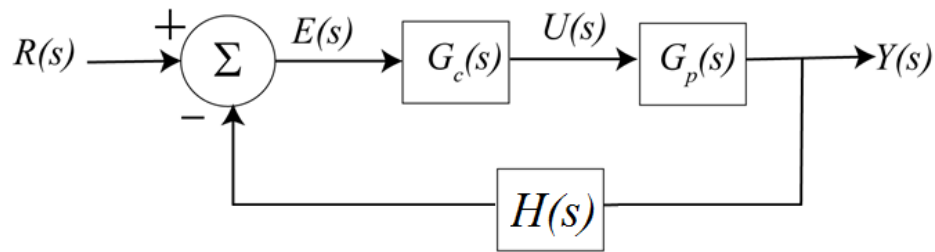

Figure 2: Feedback control system
2. For the feedback control system represented by the diagram in Figure 2, determine the transfer function,  $G_o(s) = Y(s)/R(s)$ . What do you think  $H(s)$  represents?